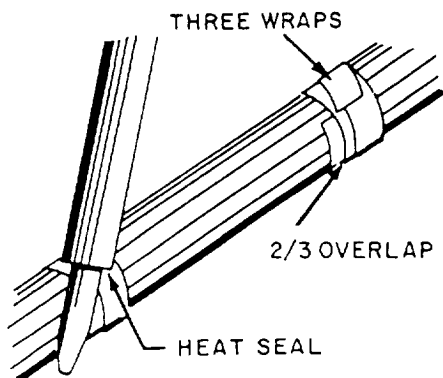

Figure 2-67.—Securing wire bundles in high temperature areas.
**HIGH-TEMPERATURE, PRESSURE-SENSITIVE TAPE LACING.**— High-temperature, pressure-sensitive tape should be used to tie wire bundles in areas where the temperatures may go above 250°F. Install the tape as follows (see fig. 2-67):